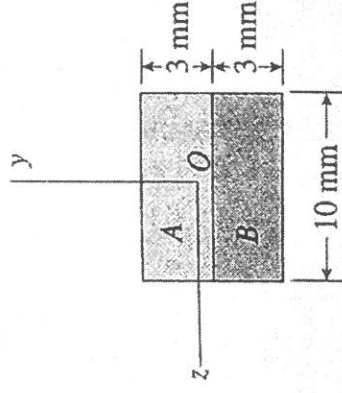

Fig. 2
2. The cross section of a bimetallic strip is shown in Fig. 2. Assume that the moduli of elasticity for metals  $A$  and  $B$  are  $E_A=196$  GPa and  $E_B=98$  GPa, respectively.